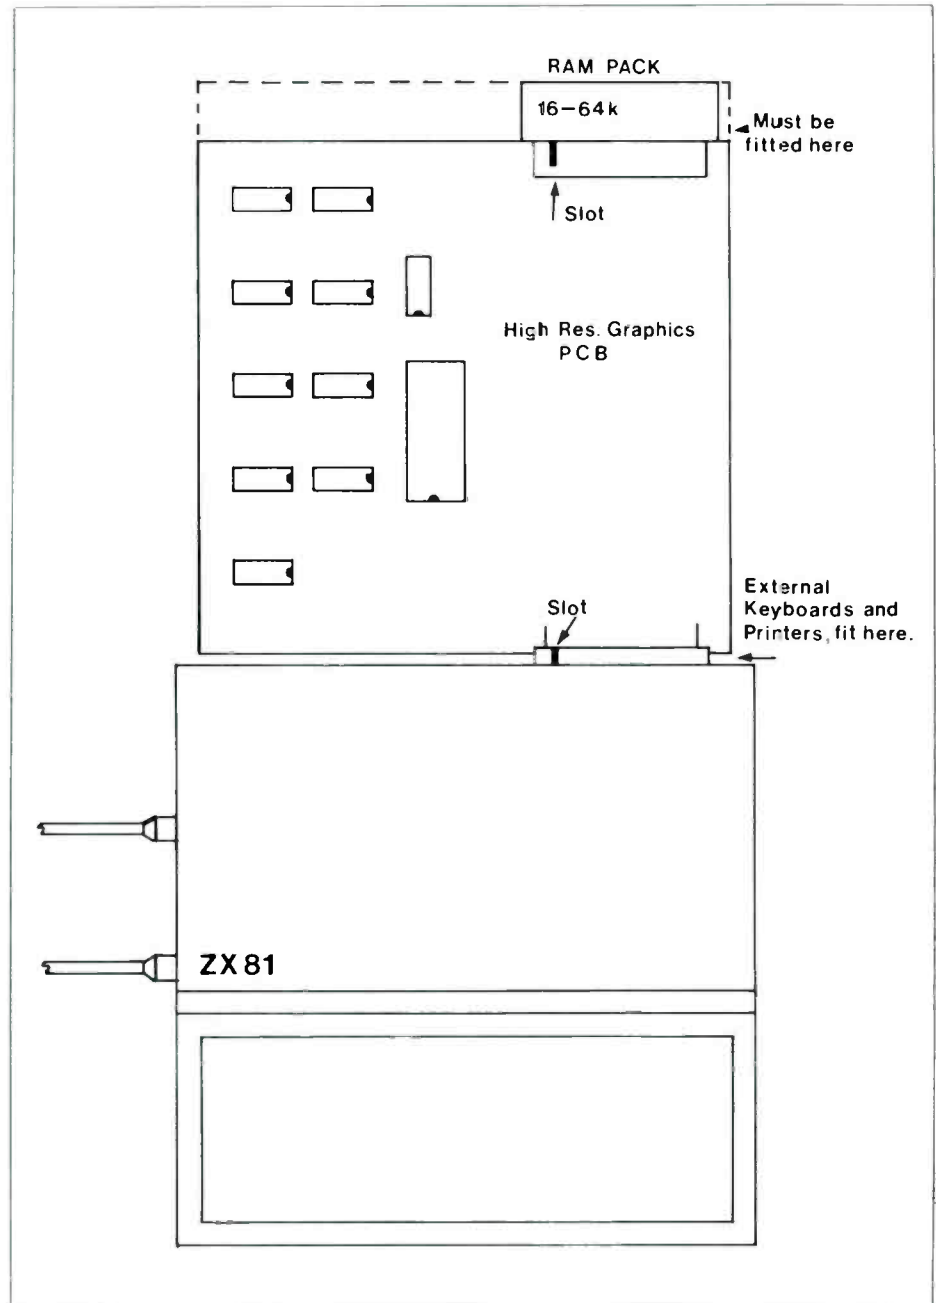

Figure 3. Connecting to ZX81
The module requires a minimum of 8K RAM connected externally (see Fig. 3) and also, the Sinclair 1 K RAM is used to store variables used by graphics routines and user defined character tables. The RAM is made to appear twice in memory map from 8K to 10K and IC 4,5,7 and 8K. IC11 provides 2K of ROM containing graphics routines, which are pre-programmed, and appear in memory between 10K and 12K. A list of new variables appears further on, along with "routine" entry points and RAM areas useful for storing machine-code programs. The HI-RES display file is stored in a Basic program line at the end-of-program area. Being set up automatically, it moves around in memory as Basic lines are added or deleted, but is ignored by the computer as two newline characters (118) immediately follow the line number. Each row of pixels, are mapped from 34 bytes in the display file and 8 bits of each byte, map to 8 successive pixels on the screen (left most significant). Rows follow straight on from one another (top to bottom of the display) without any newline characters
Connect module, ZX81 and RAM pack as shown in FIG. 3. If you wish to use a printer or external keyboard, connect these to the computer first, then fit the graphics module and RAM pack.